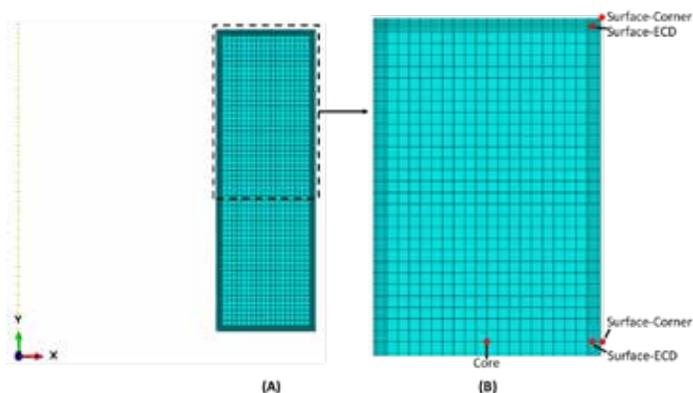

Figure 1: (A) Axisymmetric model of ring used for study, and (B) locations of nodes in the model used to report results.
This article will explore, using the heat treatment simulation software DANTE, thermal and transformation strains of a carburized, AISI 4120 steel ring at several locations. The process modeled consists of gas carburization, transfer from the carburization furnace to the oil tank, quenching in oil, and cooling to room temperature. Figure 1(A) shows the meshed, axisymmetric finite-element model. Fine elements near the surface are required to properly describe the carbon and thermal gradients, and their subsequent effect on phase transformations and stress. The ring has an inner diameter of 80 mm, an outer diameter of 120 mm, and a height of 60 mm. Figure 1(B) shows the locations that will be evaluated in the model and the nomenclature used. The locations consist of two surface points, one at mid-height and the other at the corner; two points at the effective case depth of 1.0 mm, one at mid-height and the other at the corner; and one point in the core.